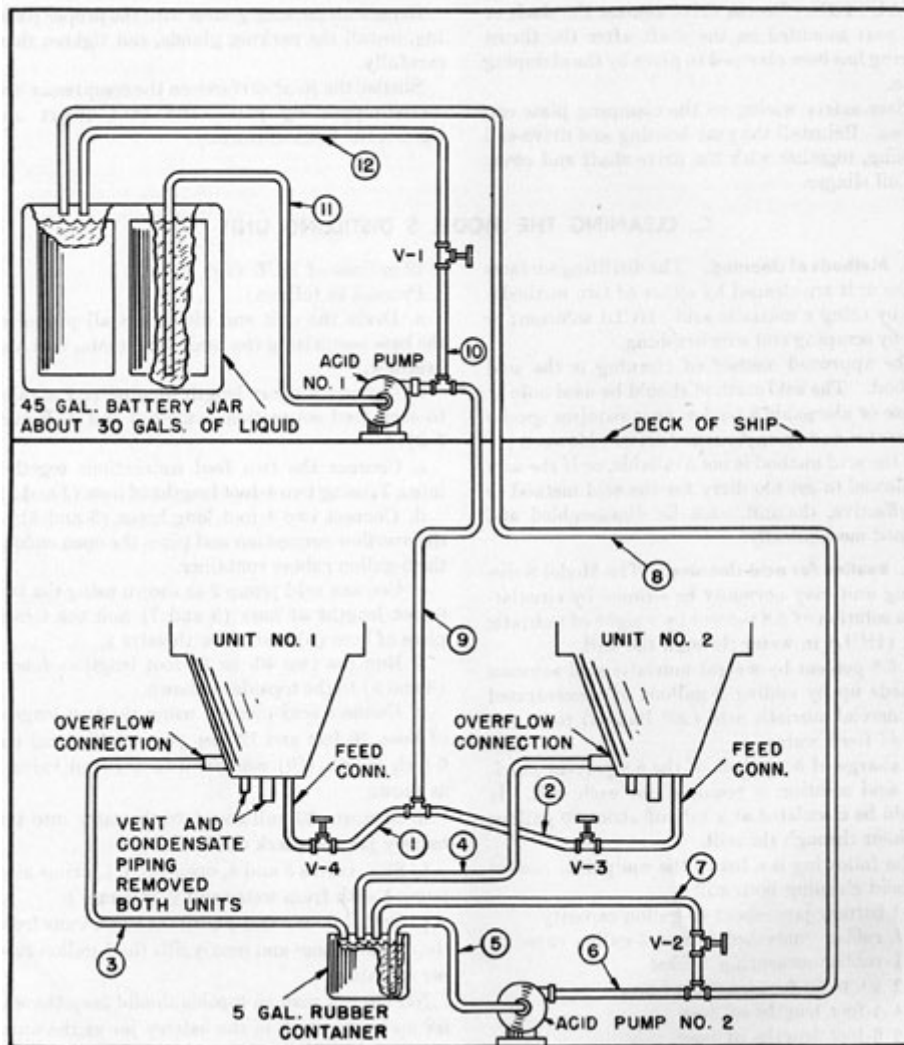

Figure 5-2. Acid cleaning piping arrangement.
b. Connect a short length of pipe and a valve to each feed connection (valves 3 and 4, Figure 5-2).